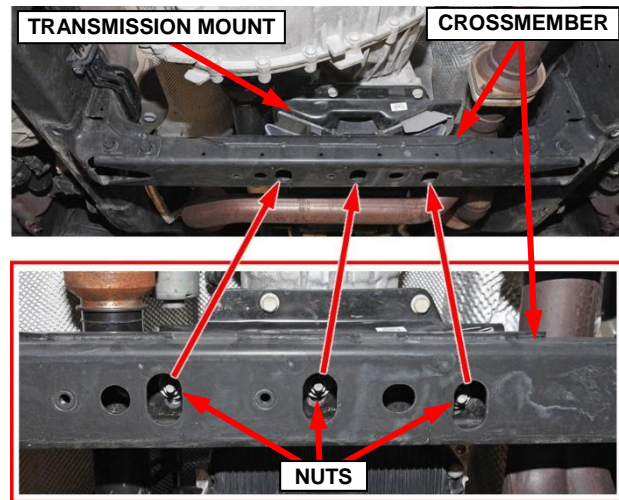

Figure 16 – Transmission Mount Nuts
21. Remove and **SAVE** the three nuts securing the transmission mount to the crossmember (Figure 16).
10. Install the three nuts securing the transmission mount to the crossmember (Figure 16). Tighten the nuts to 25 N·m (18 ft. lbs.).